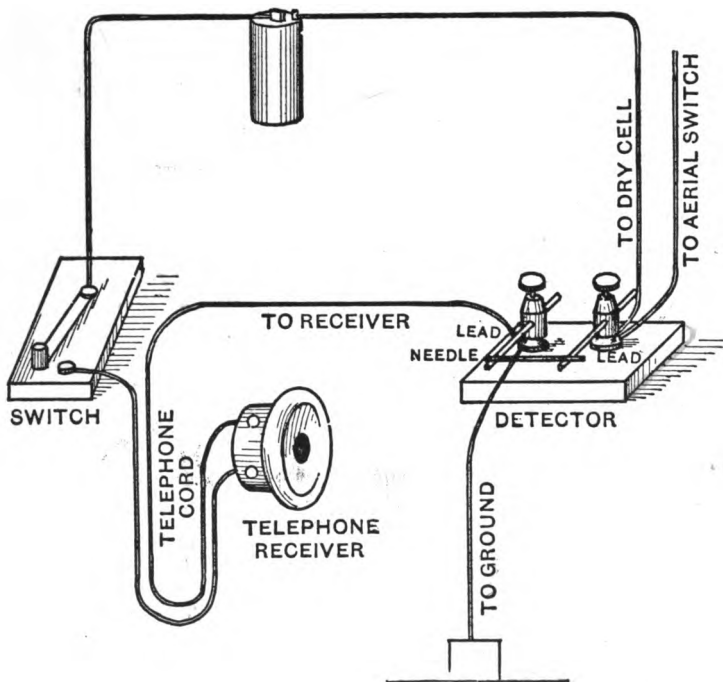

FIG. 26.—RECEIVER CONNECTED UP.
be laid on the table when you are not using it. The dry cell may be set back of the switch and the detector where it will be out of the way. The proper places for all these parts on the table are clearly shown in the outline drawing Fig. 26.
An end of the other wire of the telephone cord is connected with the remaining screw in the telephone case and the last connection is made by fastening the remaining tip of the telephone cord between the washer and the nut on the front screw of the switch, all of which is clearly shown in Fig. 26.
**Adjusting the Receiver.**—The only adjustment of the receiver needed is to move the needle of the detector now and then to a different place on the pencil leads. From the connections shown in Fig. 26, it will be plain that when the switch is closed, that is, when a contact is made by throwing over the lever to the right and when the sewing-needle is laid across the pencil leads of the detector, the *circuit* will be completed and the current from the dry cell will have a free path without a break in it to flow through and so must pass through the detector and the telephone receiver.